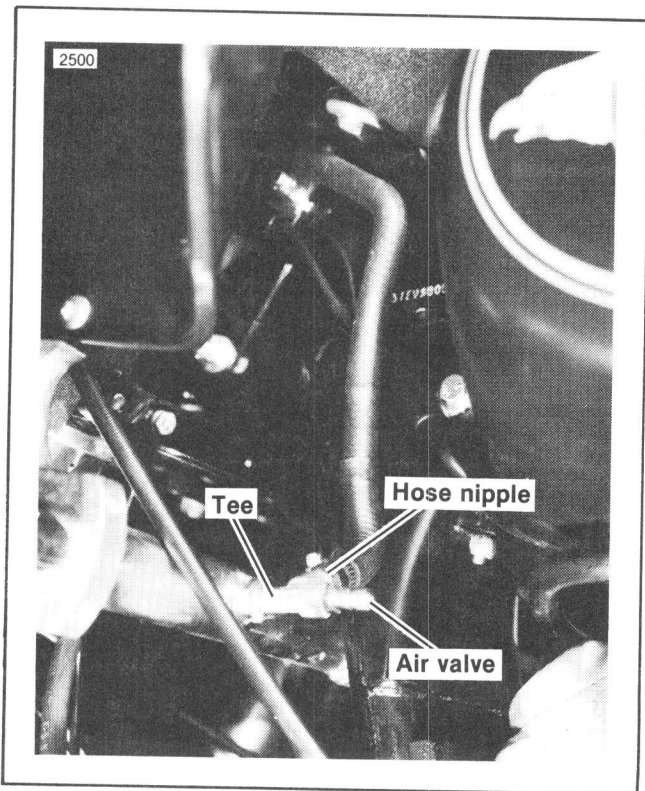

Figure 5-3. Rerouted Air Suspension Hose
Rerouting Air Suspension Hose (Figure 5-3)
8. Slip hose clamp over end of hose (31) next to 90° bend.
10. Route hose up along frame and forward to solenoid valve as shown in Figure 5-3.